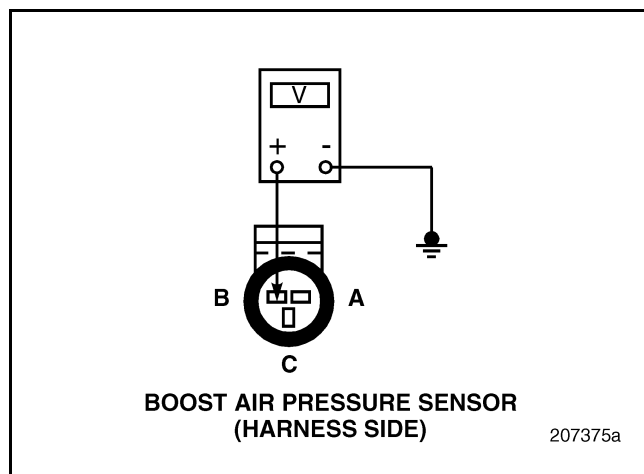

Figure 165
4. Measure the voltage between BAP Sensor harness connector pin B (reference voltage line) and a good ground (see Figure 165).